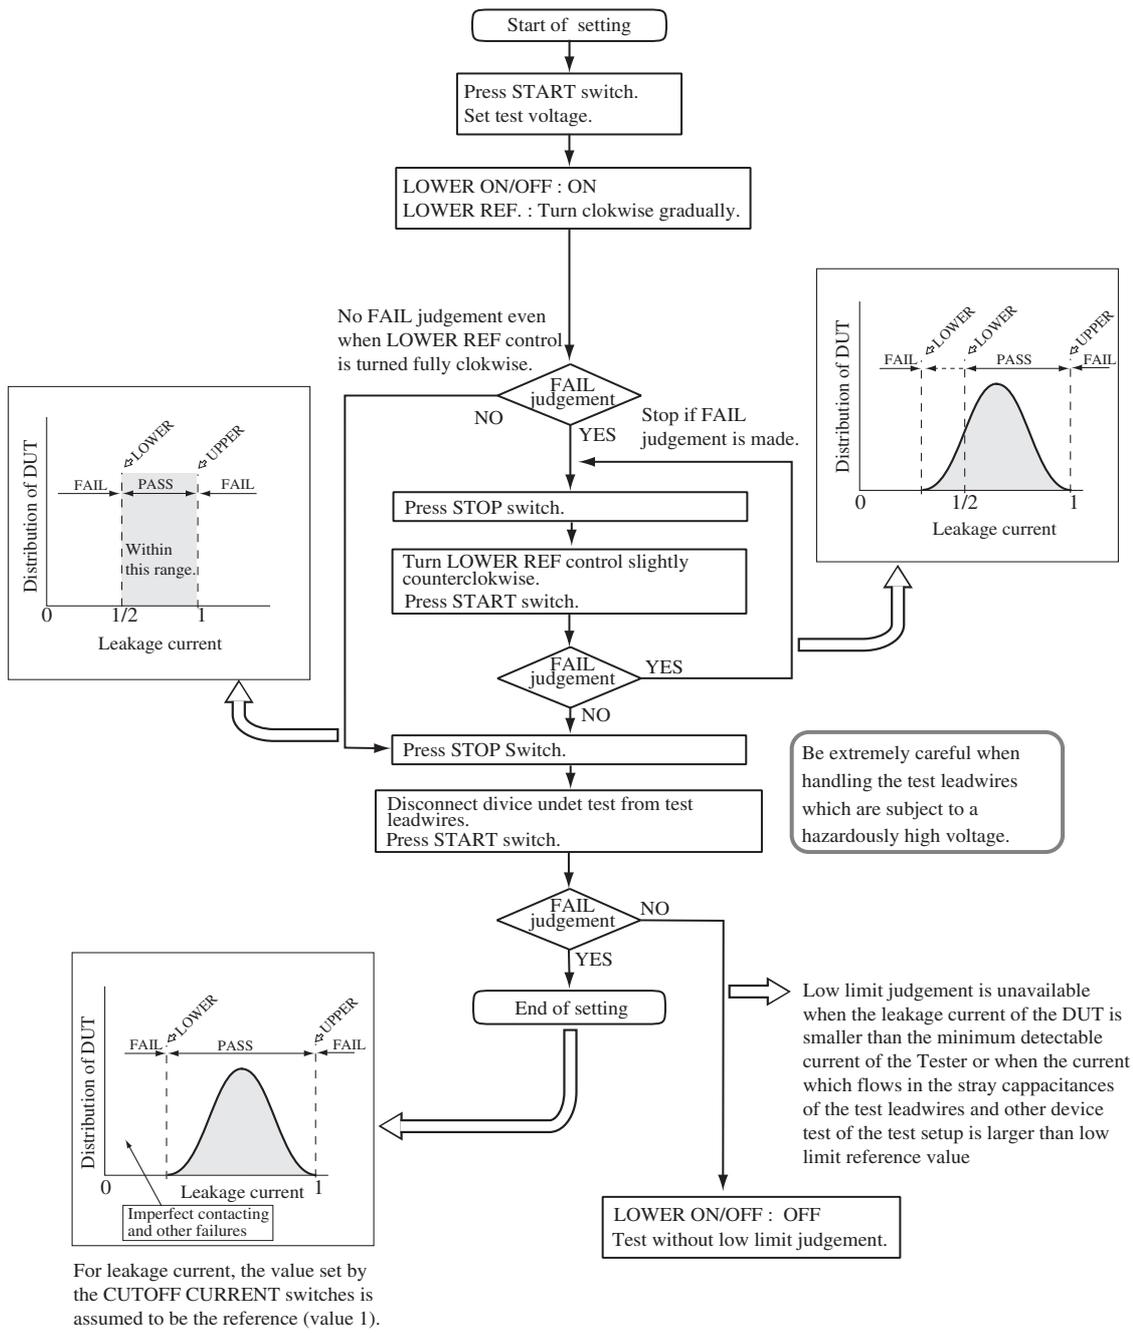

Fig.3-2 Flowchart of set the LOWER REFERENCE value
6. Make settings as shown in the flowchart on the Fig.3-2.